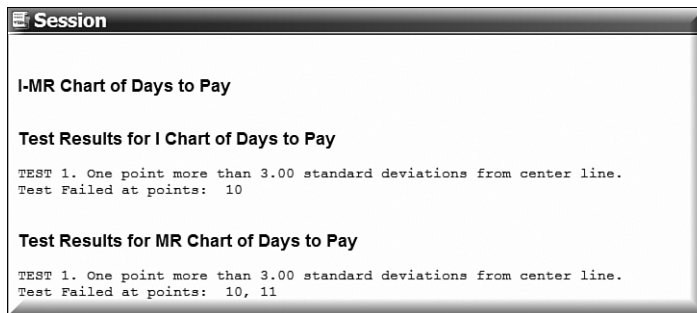

FIGURE C-21: Example MINITAB I-MR Session Window
Notice that the top graph plots the *individual* data points, in this case the days it took for an invoice to be paid over time. The mean (denoted as \bar{x}) is 31.8 days, and the UCL (upper control limit) is 64.15 days, and the LCL (lower control limit) is -0.55 days. There is one data point out of control, as indicated by the point above the UCL with "1" footnote beside it. The special cause guideline that a MINITAB reference is "**1 Point Beyond Control Limit (3σ): Detects a shift in the mean, an increase in the standard deviation (σ), or a single aberration in the process. Check your R-chart to rule out increases in variation.**" Figure C-21 provides this example's MINITAB session window.
It is best to determine whether a process is in or out of control by checking the *moving range* chart because it is the average moving range (MR-bar) that defines the width of the control limits for both graphs. The bottom graph displays the “*moving range*” (MR), which is the difference between two consecutive individual data points, hence the MR graph has one less data point than the Individuals chart. The average moving range (denoted as MR-bar) is 12.16 days, and the UCL is at 39.74 days, and the LCL is at 0 days. There are two data points out of control (calculated by the absolute difference between the one out of control individual data point and those points collected on either side of it). They are indicated by the two points above the UCL with “1” footnote beside them—the same rule referenced in the top chart. Figure C-21 provides this example’s MINITAB session window.